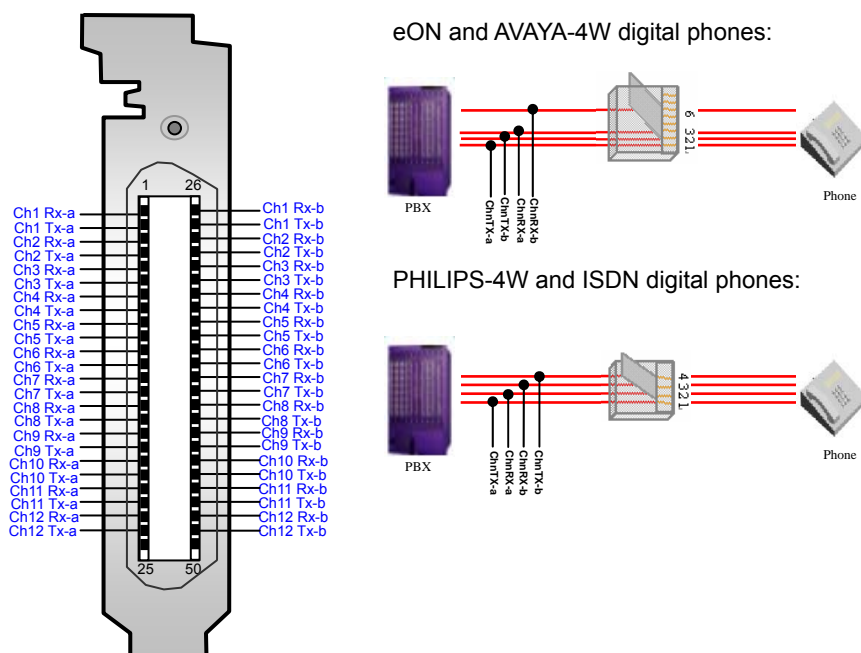

Figure 2-19
- 1) eON and AVAYA-4W digital phones: See Figure 2-19 below. In parallel, connect the 1st and 2nd leads of the communication line between the PBX and a phone to CHn Tx-a and CHn Tx-b, and the 3rd and 6th leads to CHn Rx-a and CHn Rx-b.
- 2) PHILIPS-4W and ISDN digital phones: See Figure 2-19 below. In parallel, connect the 2nd and 3rd leads of the communication line between the PBX and a phone to CHn Rx-a and CHn Rx-b, and the 1st and 4th leads to CHn Tx-a and CHn Tx-b.